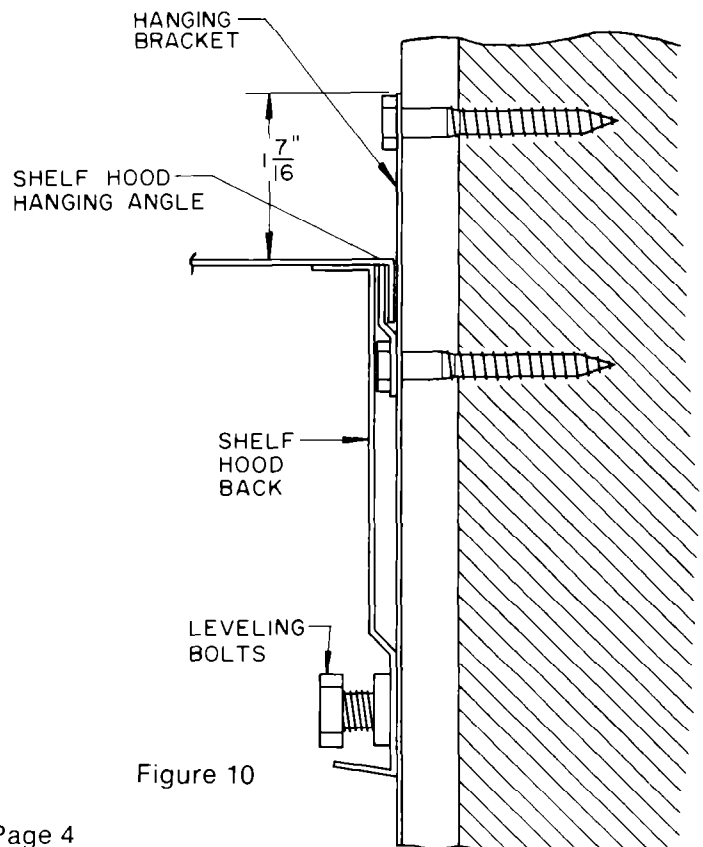

Figure 10
14. Hang the shelf hood on the hanging bracket. (See Figure 10). To be sure the shelf hood hanging angle is completely engaged in the hanging bracket, measure from the top of the shelf hood to the top of the hanging bracket. This distance should be 1-7/16" on both ends.
Use the leveling bolts provided to level shelf hood after weight of the appliance is placed on it. Bolts are provided in the installation package. Screw the bolts into the nuts provided on the lower left and right hand sides of the shelf hood until the unit is level. See Figure 10.